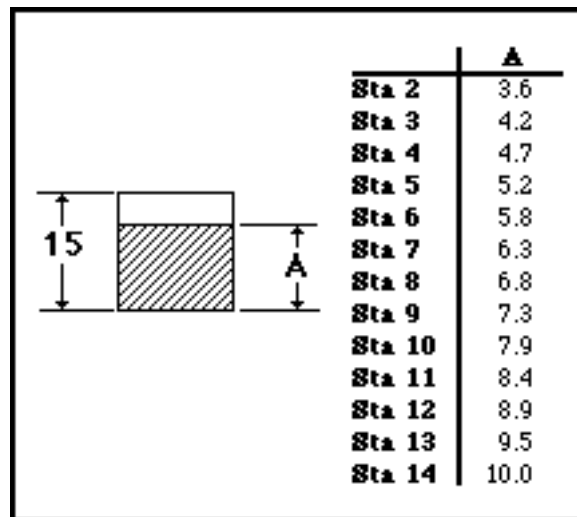

Figure 5
- ❑ Make the notched wooden strip for the 95% chord station. Use a piece of 15x15 pine about 3400mm or 11-1/2' long—it isn't structural so you *can* piece it together from shorter scrap pieces. It is important that the strip of wood be no higher than 15mm so that it will not interfere with float sanding for the upper skin. At the 95% chord station, the wing stations are 253.5mm apart. Cut a notch into the strip at each station to the dimension shown as "A" in Figure 5.
- ❑ Mark the 95% chord station on each trailing edge rib as shown on the drawings. These marks will be used to position the notched strip shown in Figure 5.